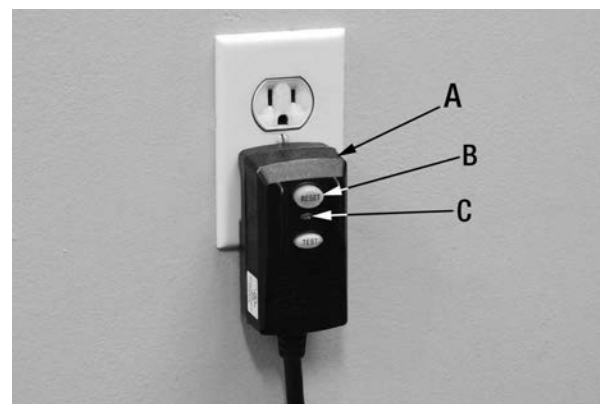

FIGURE 24
This Tile Saw comes with a GFCI plug (A) Fig.24, which stands for Ground Fault Circuit Interruption. This is a protection device which prevents the motor from overheating during operation by stopping the motor.
This GFCI plug comes with a reset button (B) Fig.24. To turn Tile Saw "On", plug GFCI plug into a 120V grounded outlet. Press the reset button (B), the indicator (C) should turn on. Now the main On/Off switch can be lifted upwards to turn Tile saw "On".